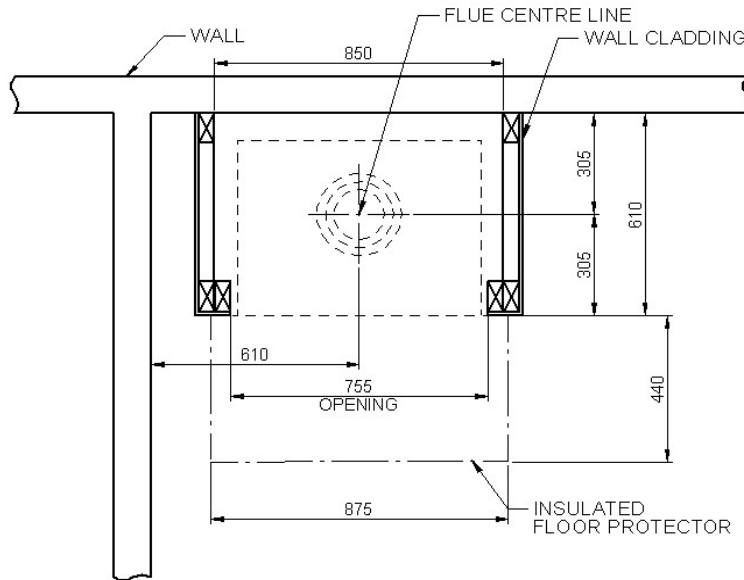

Fig. 2
1. Inspect the house construction at the proposed installation position to verify that the flue casing (250mm diameter, plus 25mm clearance all around) can pass through the ceiling space without requiring the removal of essential roof or ceiling support beams. The flue centerline will be 305mm from the rear wall and it must be at least 610mm from any side wall. (See Fig. 2).
4. **Frame up the enclosure** using normal 90x45mm dressed timber, verifying that it will be on the flue centerline. (See Fig. 2). The overall depth should be $(610 - t)$ mm, where 't' is the cladding thickness. The distance between the front uprights must be 755mm (use the supplied metal support angle as a spacer). Fix the metal support angle between the two front uprights at a height of 700mm above the base of the shielding (zero clearance) box.
10. For heat sensitive floors, construct an **insulating floor protector** of the shape shown in the Floor Plan (Fig.2) and projection sizes on page 11, (see below for concrete floors). The insulating floor protector is constructed of one layer of 6mm thick PROMATECT H or SUPALUX, topped with a layer of tiles or slate. The floor protector must be at least 875mm wide. It is desirable to carry the floor protector all the way inside the enclosure to ensure that the bottom of the shielding box does not rest below the top surface of the floor protector.